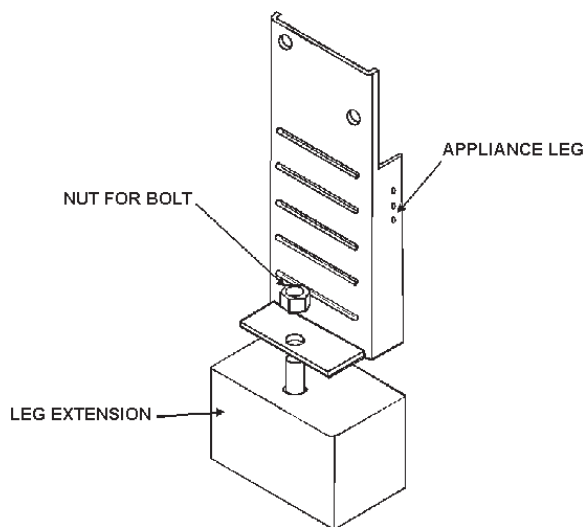

FIGURE 7.
4. Front of leg should line up with front of leg extension as shown in Figure 7 to make sure weight of unit is distributed through the leg extension.